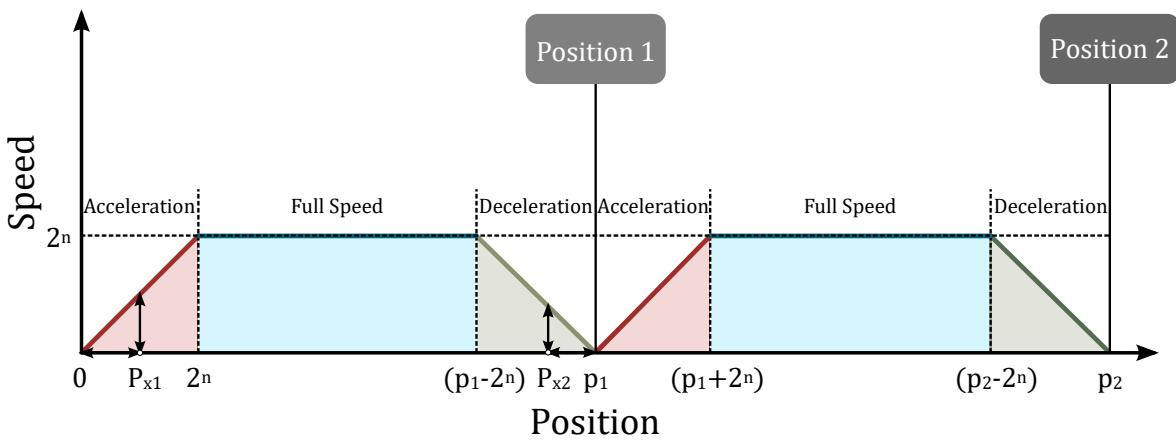

Figure 2 - Cursor speed diagram
- When the Position₁ button is pressed, the cursor must first accelerate smoothly to position 1 (p_1), then move at full speed and finally decelerate smoothly to stop at position 1 (p_1). This can be done from the start position or from position 2, see Figure 2.
- When the Position₂ button is pressed, the cursor must first accelerate smoothly to position 2 (p_2), then move at full speed and finally decelerate smoothly to stop at position 2 (p_2), see Figure 2.